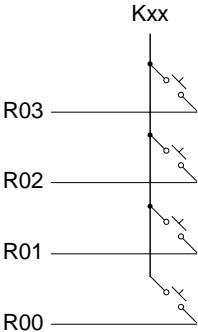

Fig. 5.4.3
(3) Scanning for key input by ports R00–R03
**Specifications**     The key matrix is shown in Figure 5.4.3. This is the scanning subroutine, "KYSC", to specify the key that has been made high input.